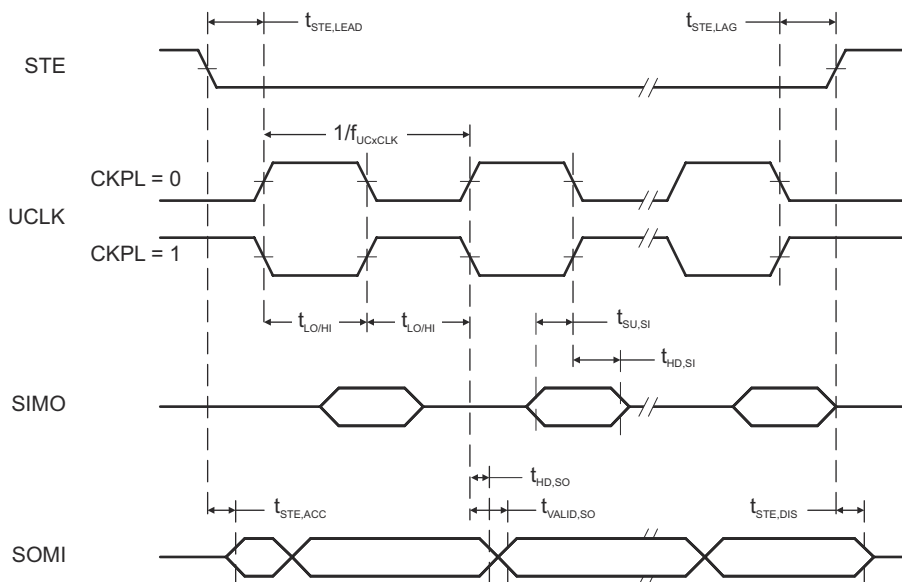
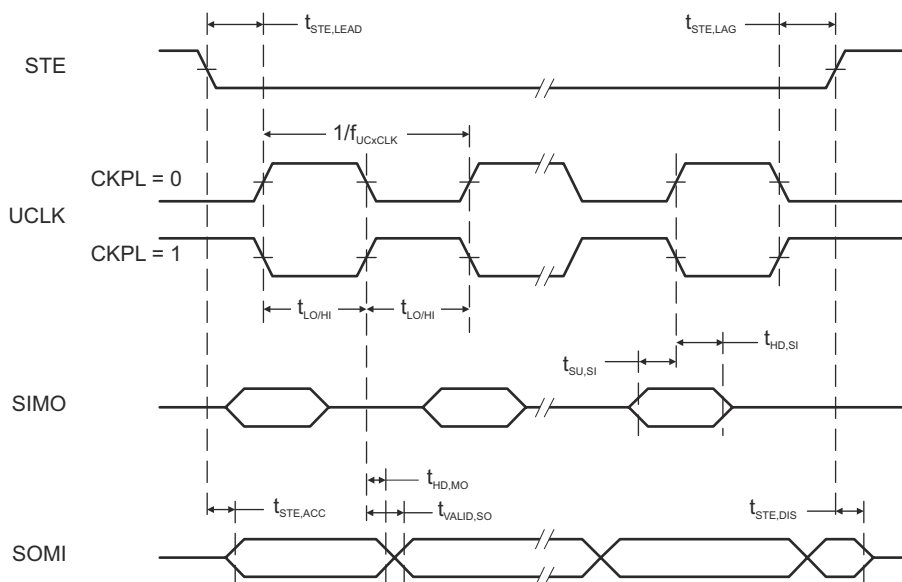

图 7-14. SPI Slave Mode, CKPH = 0
图 7-15. SPI Slave Mode, CKPH = 1
(2) Specifies the time to drive the next valid data to the SOMI output after the output changing UCLK clock edge. See the timing diagrams in 图 7-14 and 图 7-15.
(3) Specifies how long data on the SOMI output is valid after the output changing UCLK clock edge. See the timing diagrams in 图 7-14 and 图 7-15.